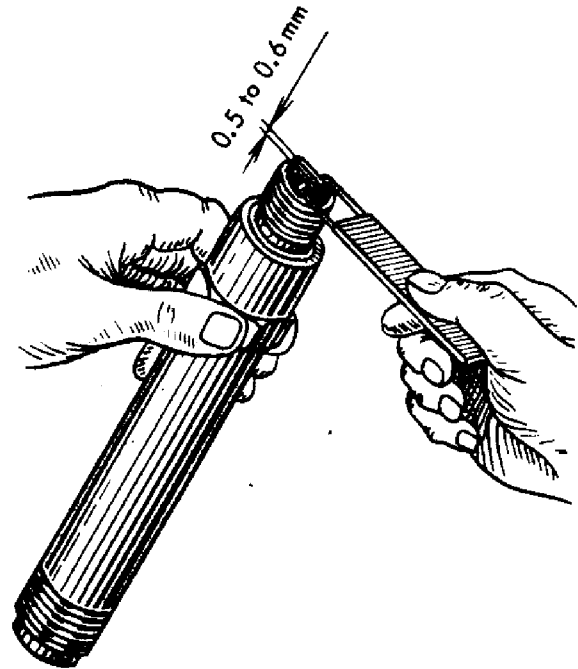

FIG.12. MEASURING SPARK GAP
19. During each PM No.1, screw out the spark plugs, check and adjust the spark gap (Fig.12), clean the insulators of soot and carbon deposit, clean the spark plug removable parts and replace the rubber sealing sleeve if needed. Defective spark plugs should be replaced.